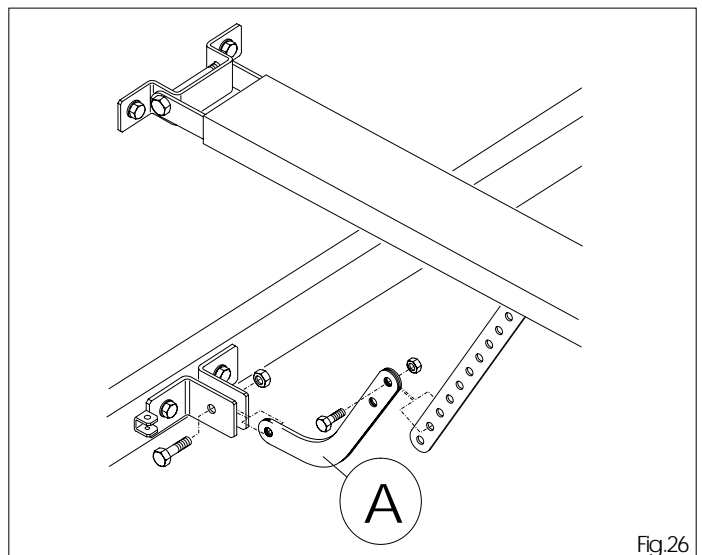

Fig.26
- 6.25 For sectional doors that require it, fit the arm shown in figure 26 ref. A on the attachment and carry on from point 6.18.